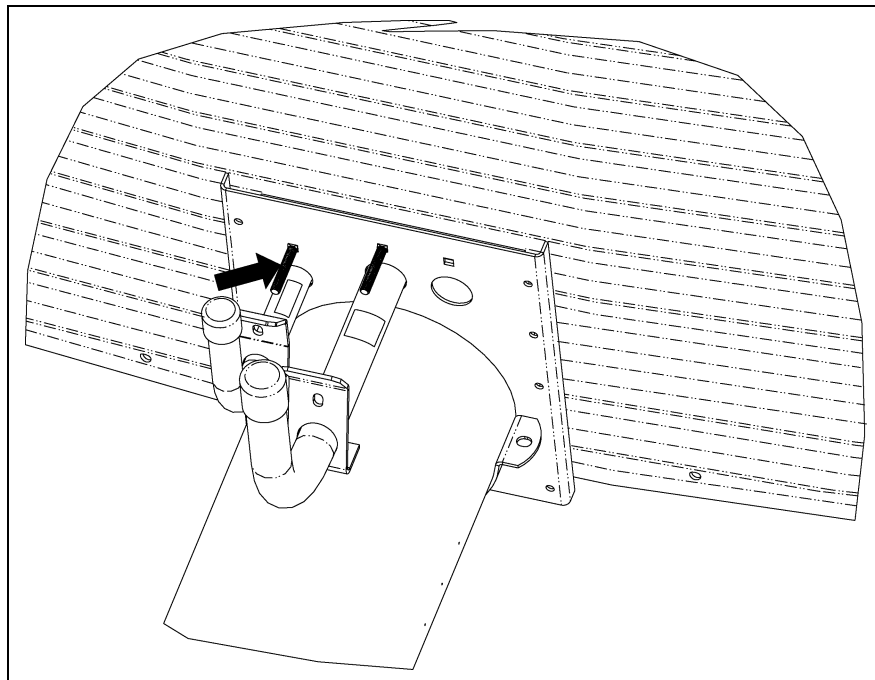
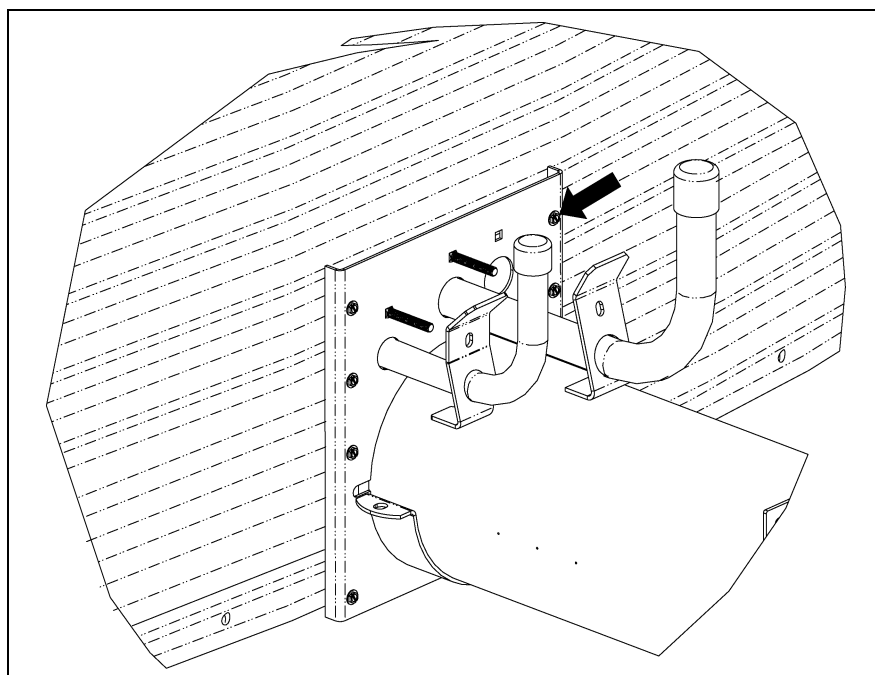

Figure 5R
Figure 5S
15. Block up the outside end of the discharge tube so that the tube does not rest on the bin wall sheet. Next, insert two (2) 5/16" x 2" carriage bolts which hold the control tube latches onto the face plate, then attach the wall plate and wall seal to the bin wall using eight (8) 1/4" x 1-3/4" self-drilling screws.
**NOTE:** Discharge tube cannot rest on bin wall sheet. (See Figure 5R and Figure 5S.)